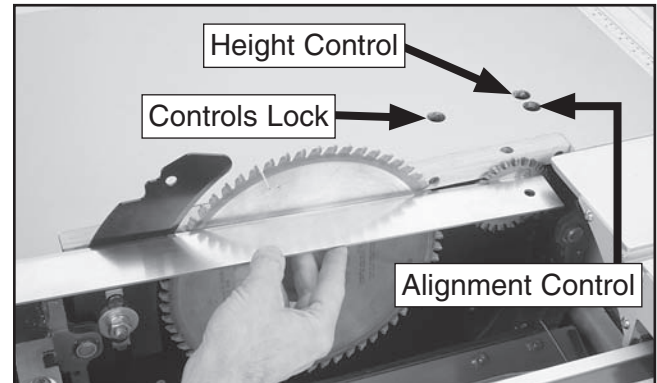

Figure 53. Checking and adjusting scoring blade positioning.
2. Unlock the scoring blade controls by inserting a 6mm hex wrench into the controls lock hole shown in **Figure 53** and turning the mechanism inside counterclockwise until loose.
3. Place a straightedge across the body of the main blade (not the teeth) and align the body of the scoring blade to the main blade, by turning the alignment control (**Figure 53**) with a 6mm hex wrench.
4. Adjust the height of the scoring blade, by turning the height control (**Figure 53**) with a 6mm hex wrench, until the exposed portion equals the kerf thickness of the main blade.